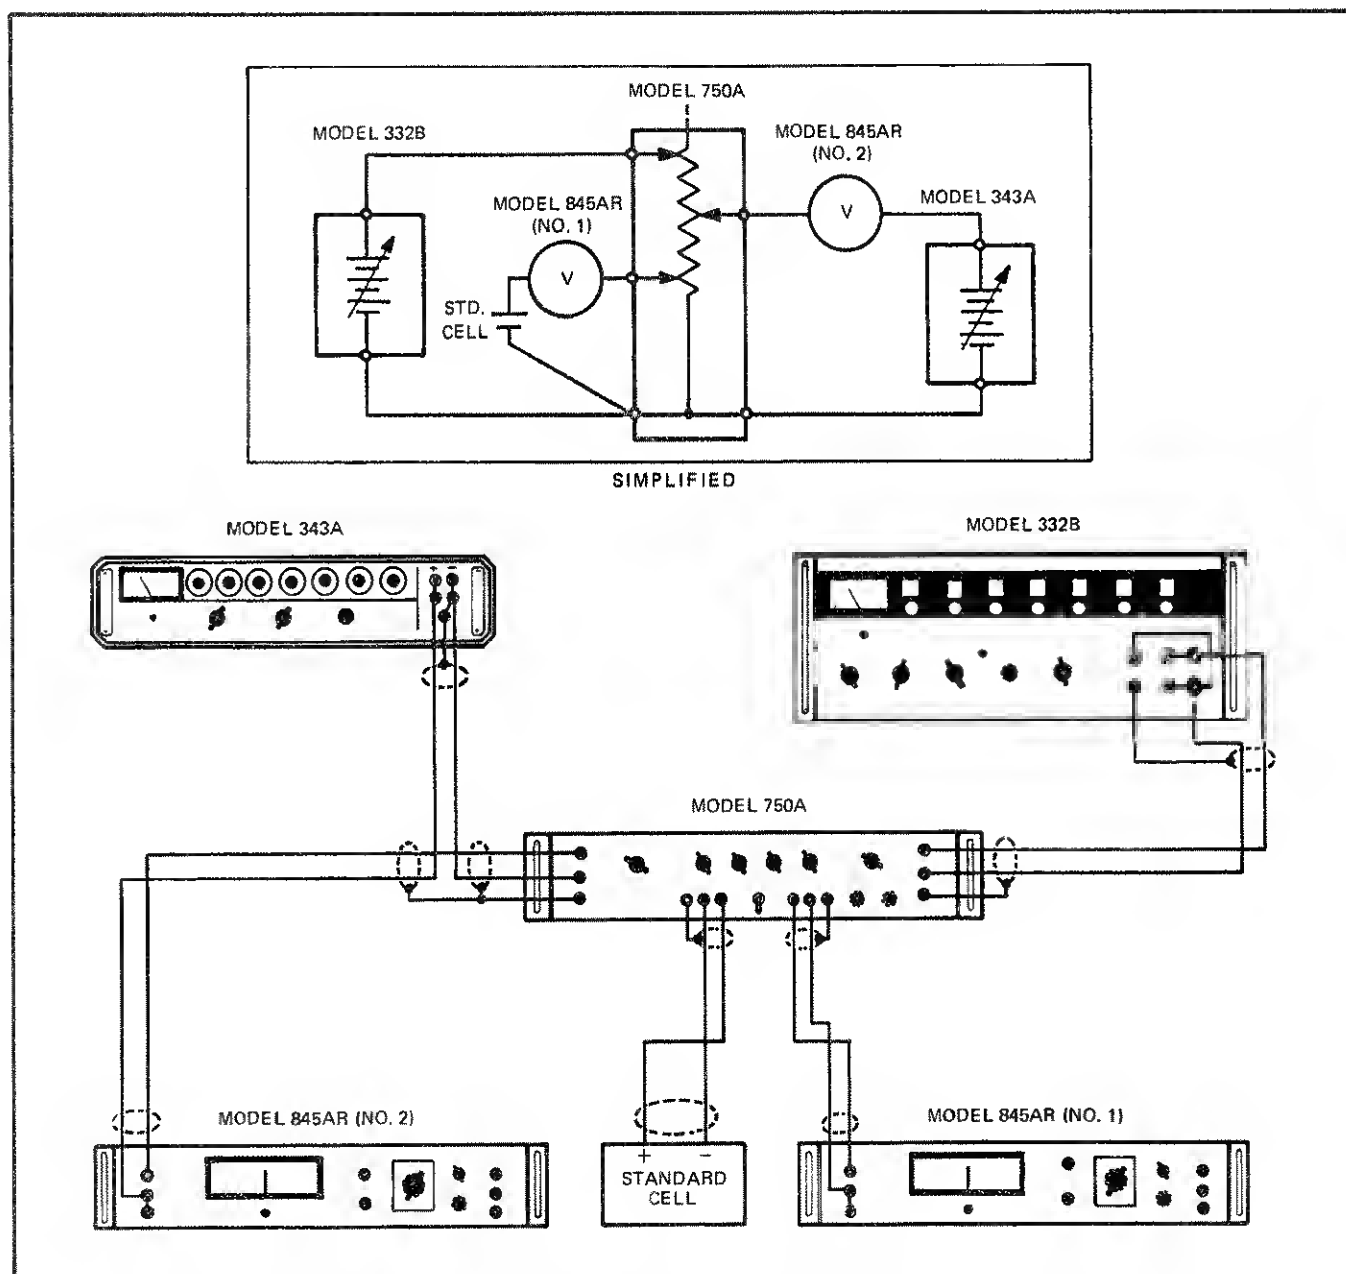

Figure 4-16. RANGE ADJUSTMENT AND CALIBRATION VERIFICATION TEST SETUP
- a. Connect equipment as shown in Figure 4-16.
- a. Leave equipment connected as shown in Figure 4-16.